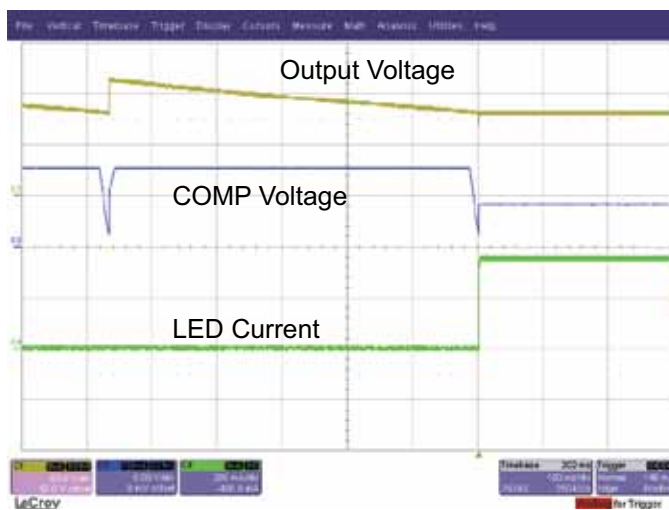

**Fig. 5 Input Under-Voltage Behavior**
**3. Input Under Voltage Protection:** Input under voltage protection is provided by limiting the input current at low input voltages. Fig. 5 shows the output and input currents at voltages less than the minimum rated voltage. The LED current will decrease as the input voltage falls and the input current limits to about 1.4A. Note that the input current limit is not a hard limit as the slope compensation added to the peak current sense signal will allow a small change in the input current with a decrease in the input voltage.